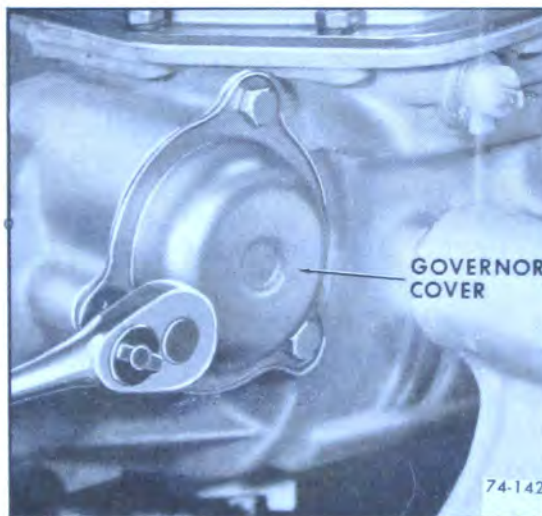

Figure 74-346
2. Install governor gasket and cover to case. Torque bolts to 8-12 lb. ft. See Figure 74-346.